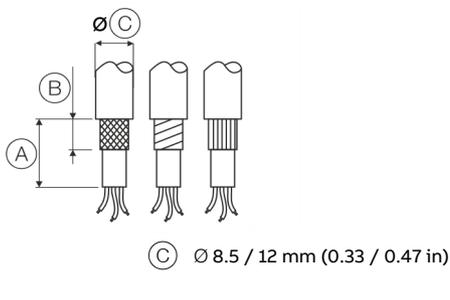

Figure 5: Stripping the connection cable
2. Strip the cable in accordance with Figure 5.